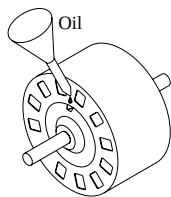

Fig. 8
- **Oil motor.** The cooler motor in this unit should be oiled with a few drops of non-detergent 20/30 weight oil once each year. The oil ports are located on each side of the motor (Fig. 8). Motors that have no oil ports are lifetime oiled at the factory and require no further oiling for the life of the unit.